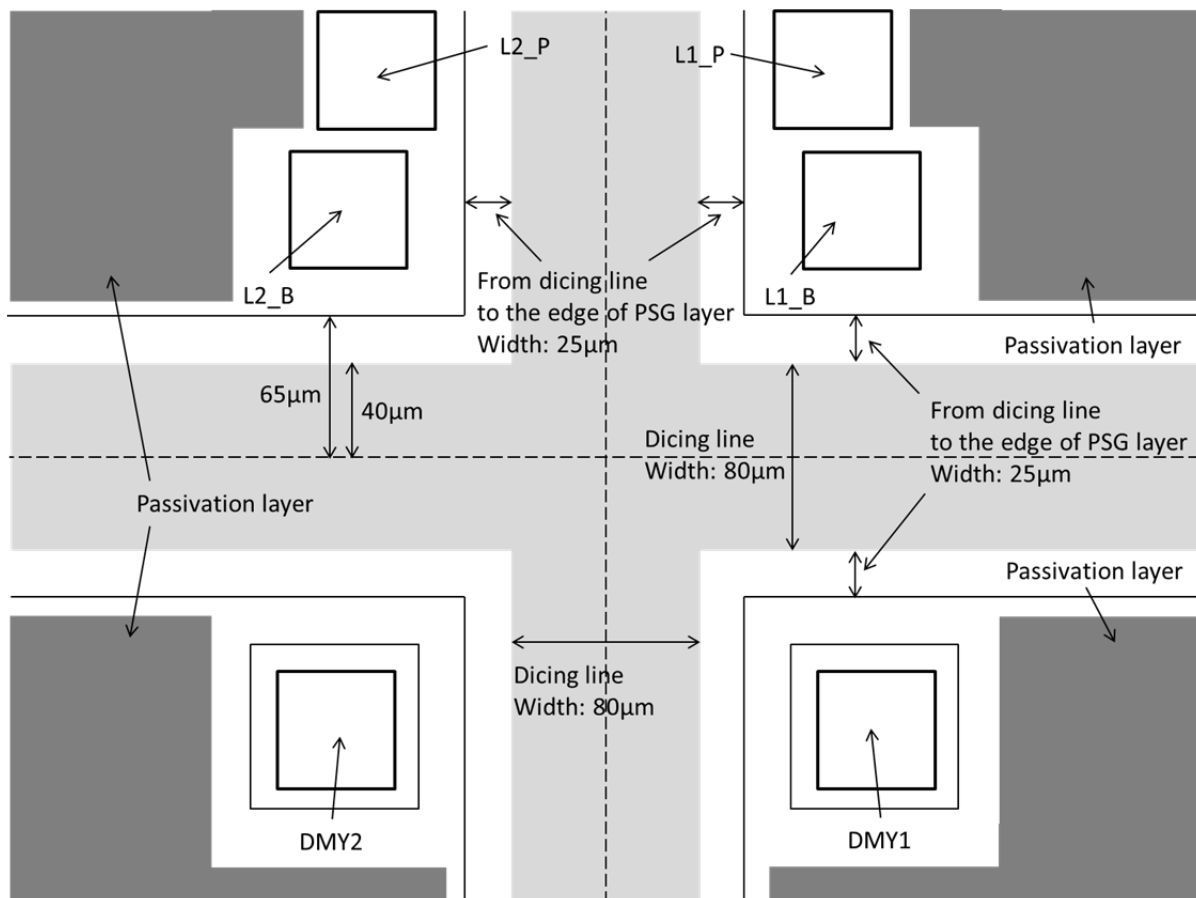

Figure 9-1: Dicing lines and around
2. Metal layers of the die are located on the inside of the PSG layer edge, but some elements are located on the dicing line (see Figure 9-1). To avoid occurrence of edge touch, make sure dicing lines are completely removed by the dicing process. When the edges of die are located within the area between the dicing lines and the edges of PSG layer after dicing process, no metal layers are exposed on the cross-sectional surface of the die.